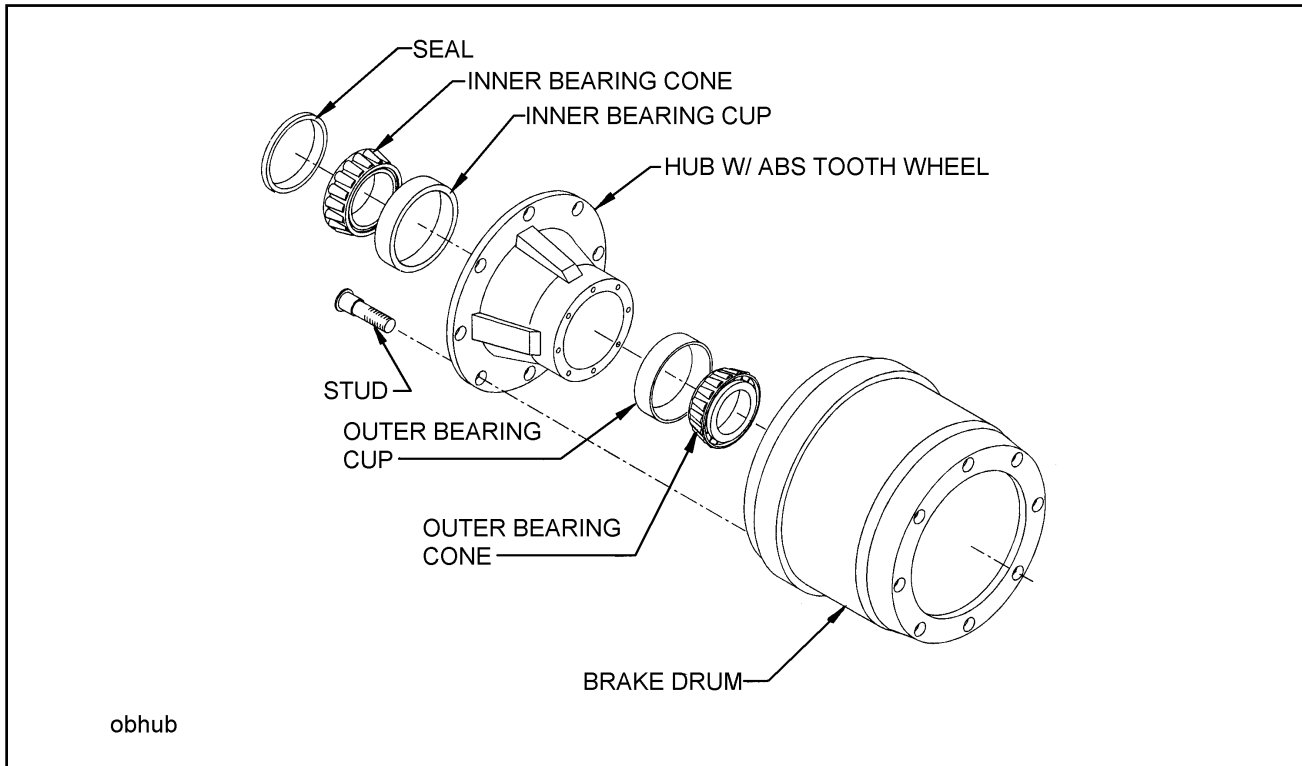

Figure 4-12 Outboard Mount Hub and Drum
4-9.4 Replace the hub and drum as follows (**See Figure 4-12**):
- a. Remove the brake drum (**See Figure 4-12**). It may be necessary to release the slack adjuster.
- i. Place the drum over the hub and brake shoes being careful not to damage the threads on the studs (**See Figure 4-12**). Make sure the drum seats flat against the hub flange and mates properly with the hub pilot. There should be no interference between the brake drum pilot chamfer and the corner radius on the hub. If interference exists, the hub will not be able to function properly.